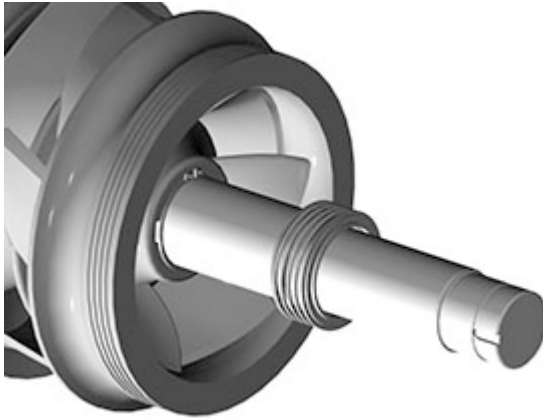

Figure 48: Mechanical seal head installed on shaft
14. Lightly coat the outboard end of the pump shaft with P-80 Rubber Lubricant Emulsion, vegetable oil, or equal and, after inspecting the seal for damages, slide the mechanical seal head onto the shaft. (see Figure 48)